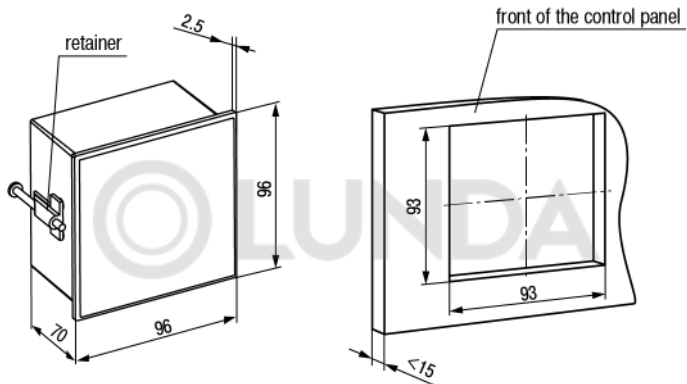

Figure 4.4 – Dimensions of Ω 1 housing
1. Prepare a place for mounting on the control panel (see *Figure 4.4*).